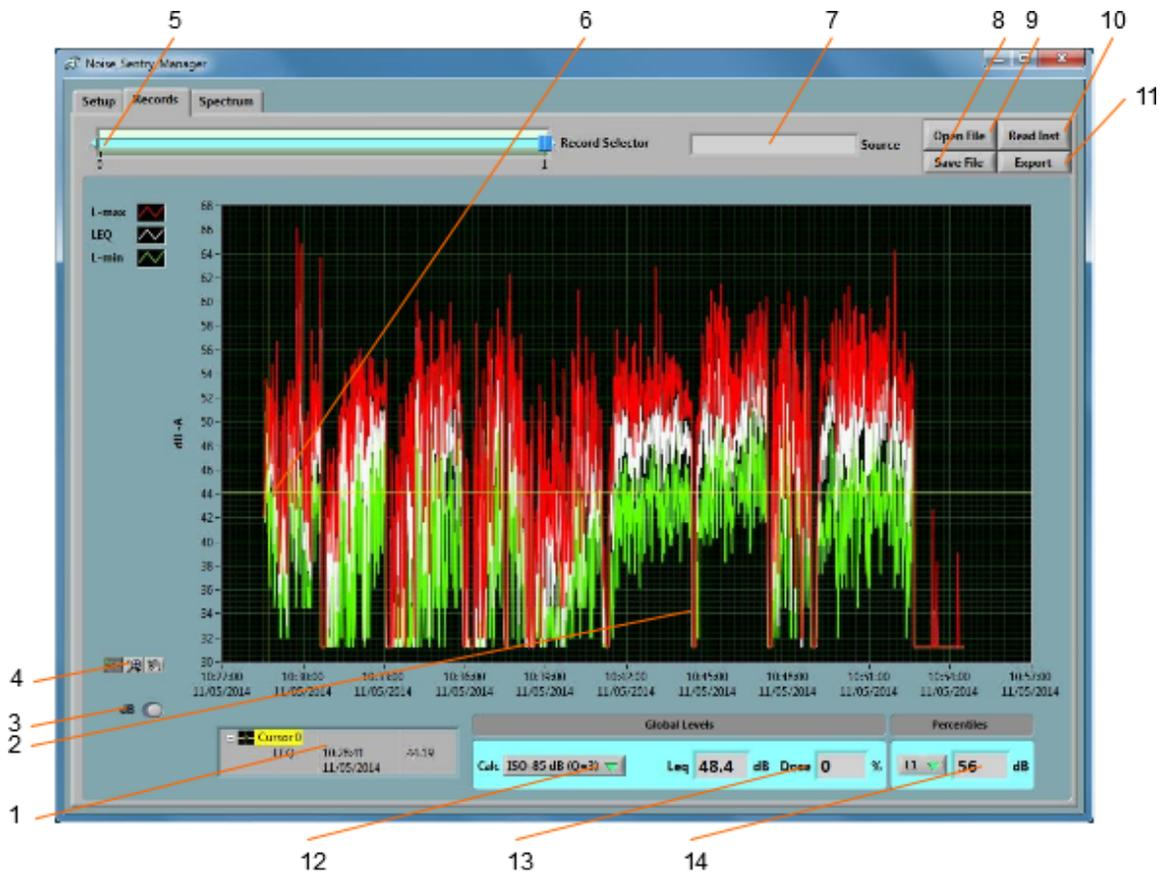

Figure 3 Record Tab
- **The Records Tab:** Is used to download, display and export the data from the Noise-Sentry-RT-P (see Figure 3).